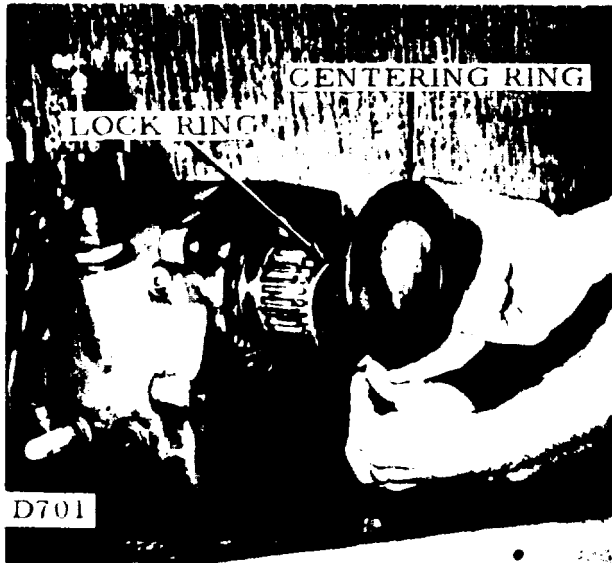

FIGURE 7-44.
g. Install a lock ring over the rear ball bearing and install the output shaft centering ring (see figure 7-44).